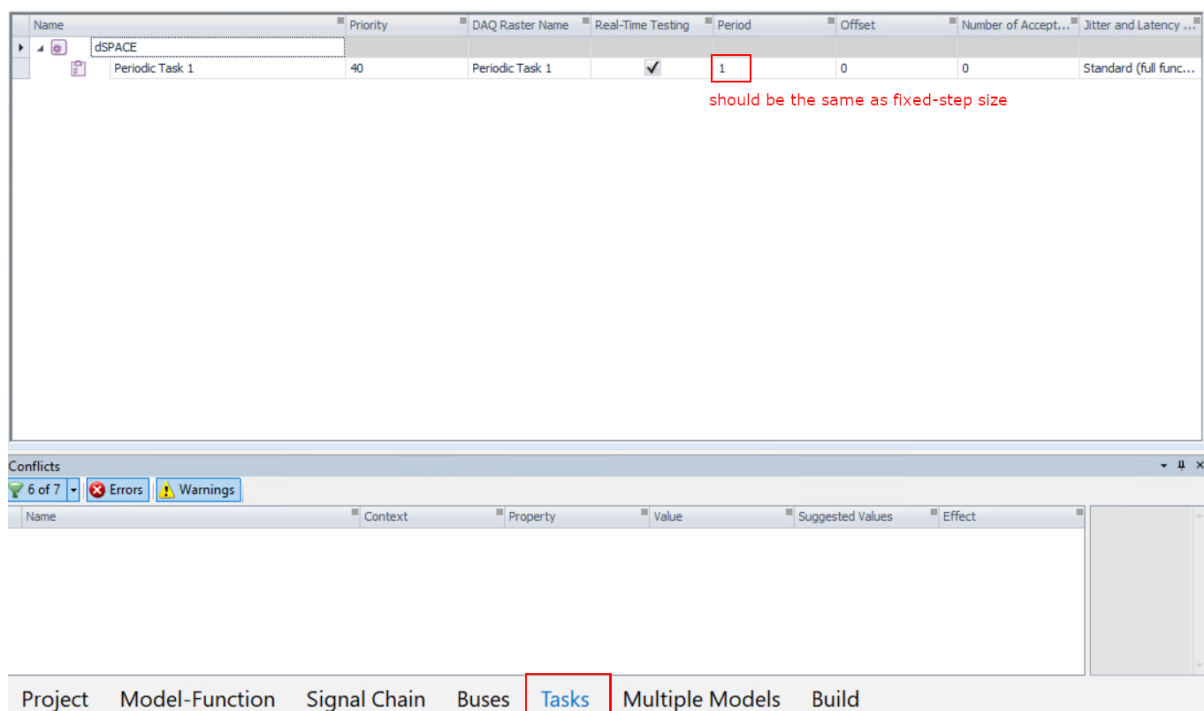

Figure 13.45: Set period of Periodic Task.
- 16) Go to the tasks tab and make sure the period of the Periodic Task matches the fixed step size selected in the Simulink model options (see Figure 13.45).